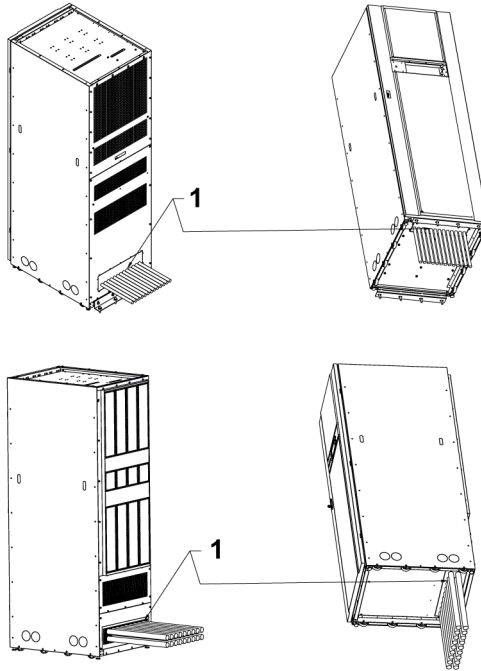

Figure 21. Blocking the space between the cable and cabinet
5. Route and install the RJ-45 Controller Area Network (CAN) cables between the UPS cabinets. See Figures 21 and 27 for wiring information.